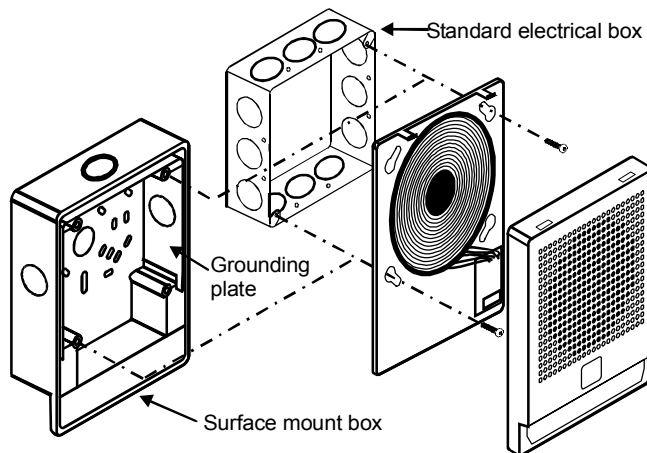

Figure 3: Mounting diagram
4. Mount the unit onto a compatible electrical box. See Figure 3.